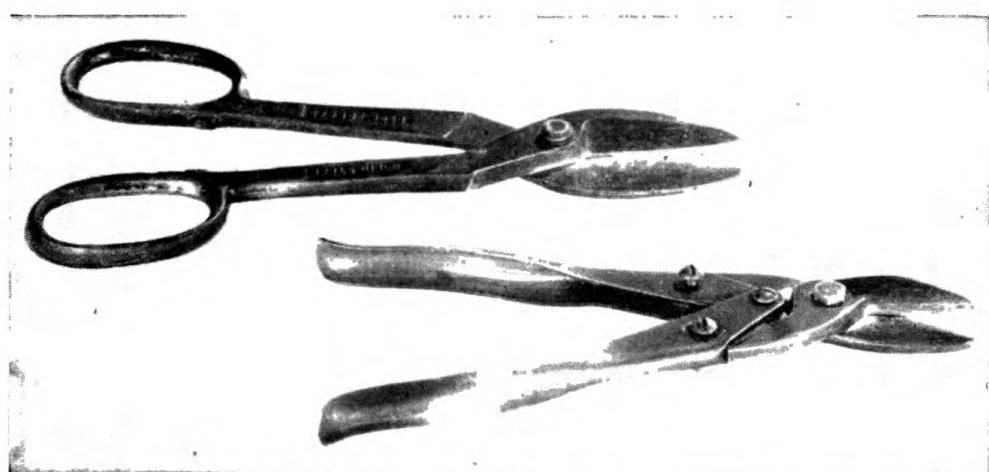

Figure 141. Sheet-metal snips.
h. SNIPS. (1) Snips are scissors used to cut metal. (See fig. 141.) They may have either straight or curved cutting edges. The curved snips are used to cut small circles and irregular shapes. Snips are to be operated by hand. If they will not cut a piece of metal by hand power alone, it is because they are dull or the metal is too heavy. Do not pound on the handle with a hammer. Get a sharper or heavier pair of snips.